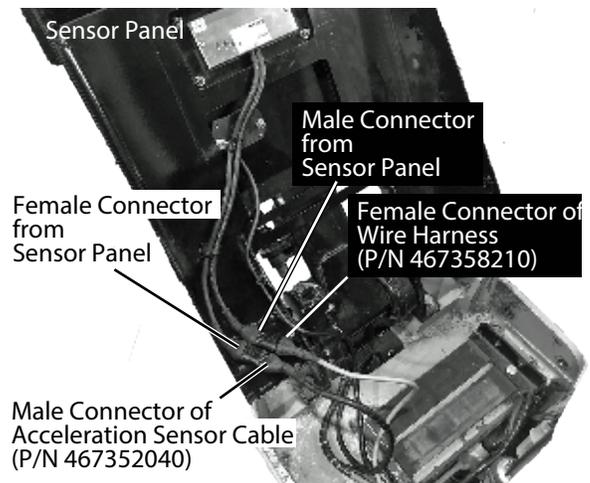

Figure 49. Secure Cable Connections
- Route the acceleration sensor cable (P/N 467352040) through inside of the main body up toward the sensor panel. See Figure 49.
- Connect the male connector of acceleration sensor cable (P/N 467352040) to the female connector extending from sensor panel. See Figure 49
- Connect the female connector of wire harness (P/N 467358210) to the male connector extending from sensor panel. See Figure 49.